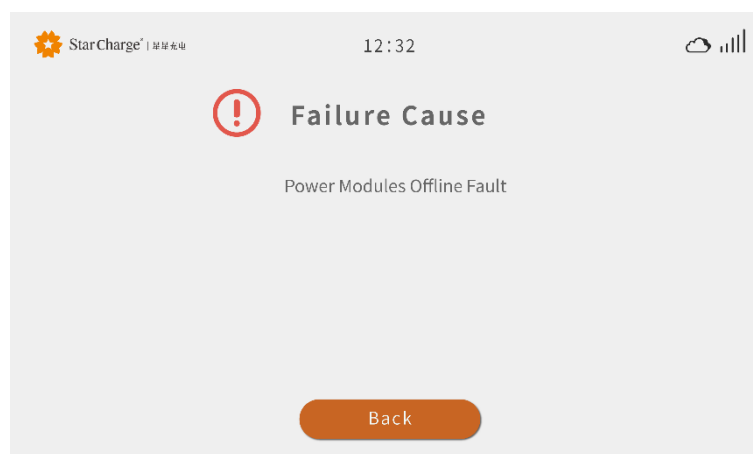

Figure 3-18 Fault details interface
Step 9 Click the exclamation mark to view the fault information, please contact the after-sales technical service for repair, as shown in Figure 3-18.